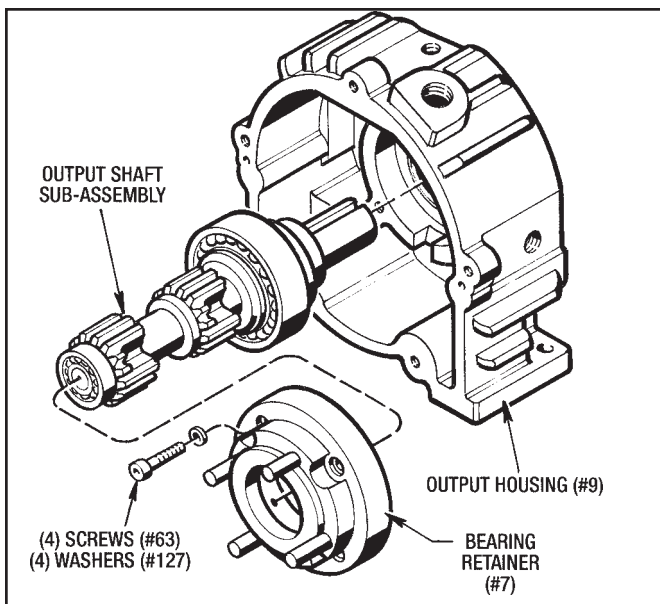

Figure 9.9 - Installing Output Shaft Sub-Assembly
2. Lubricate the oil seal lip with **White Grease** and Insert the Output Shaft Sub-assembly into the Output Housing (#9) as shown in Figure 9.9.